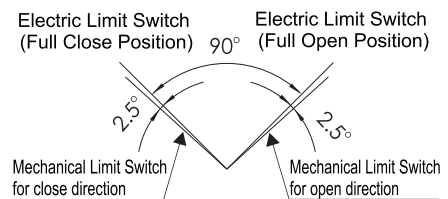

Fig. 9
- ① Drive the valve to the Full Close Position by crank and make the Full Close Position Limit-switch move (When the Limit Switch moves, you can hear a sound of “click” ).
- ② Loose the lock nut on the right side and turn clockwise the adjusting screw for closing limit-switch by means of hex socket wrench and make the adjusting screw to contact with the mechanical stopper, and then turn back the adjusting screw anti-clockwise by half of ring, make the Mechanical Limit-switch at the Full Close Position be delayed with  $2.5^\circ$  angle distance to the Electric Limit-switch and then fasten the lock nut.
- ③ Use the same method to make the adjustment of Full Open Position Mechanical Limit-switch (on left side).
**Special Hints: After adjustment, you have to make the travel of actuator, electric limit-switch, mechanical limit-switch meet the requirements of Fig. 9. During the operation, if the mechanical limit-switch is leading or coincident with the electric limit-switch, the turning of motor would be blocked and the motor would have the danger of being burnt out or over-heated!**